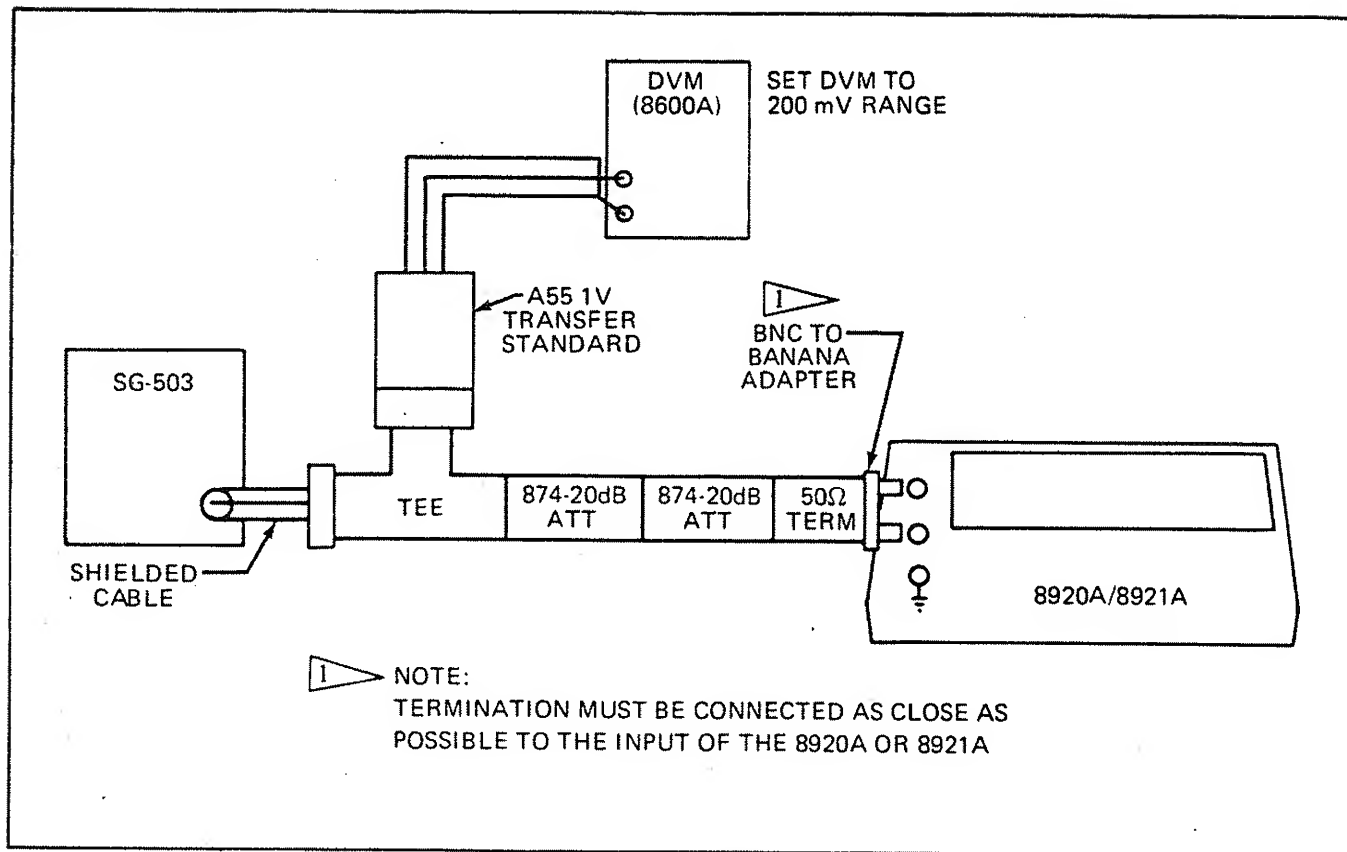

Figure 4-7. High Frequency Calibration Test Set-Up
1. For the ranges shown in Table 4-8, adjust the amplitude of the leveled generator at 50 kHz to establish a reference (refer to Figure 4-7, for the test setup). Use one 20 dB attenuator for 0.1V two attenuators for 0.01V, and three attenuators for .001V terminated with 50 ohms. Take care not to overdrive the transfer standard.